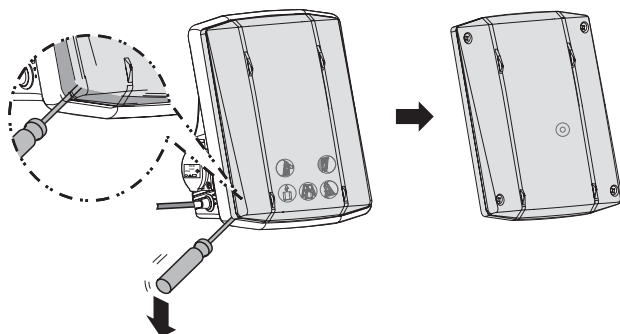

Fig. 14
5.1.2 To separate the cover from the housing, lift all four sides of the revolving rubber protection. (Fig. 14).